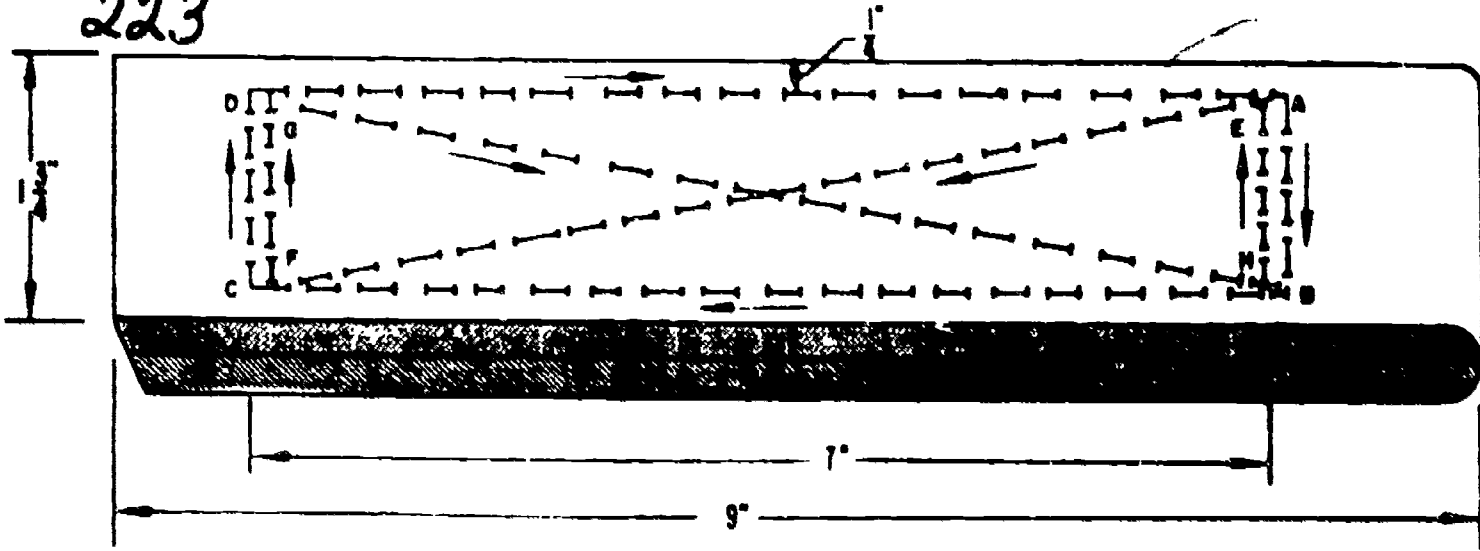

Figure 7. Box Stitching.
4. Mark the webbing for box stitching, as in figure 7.